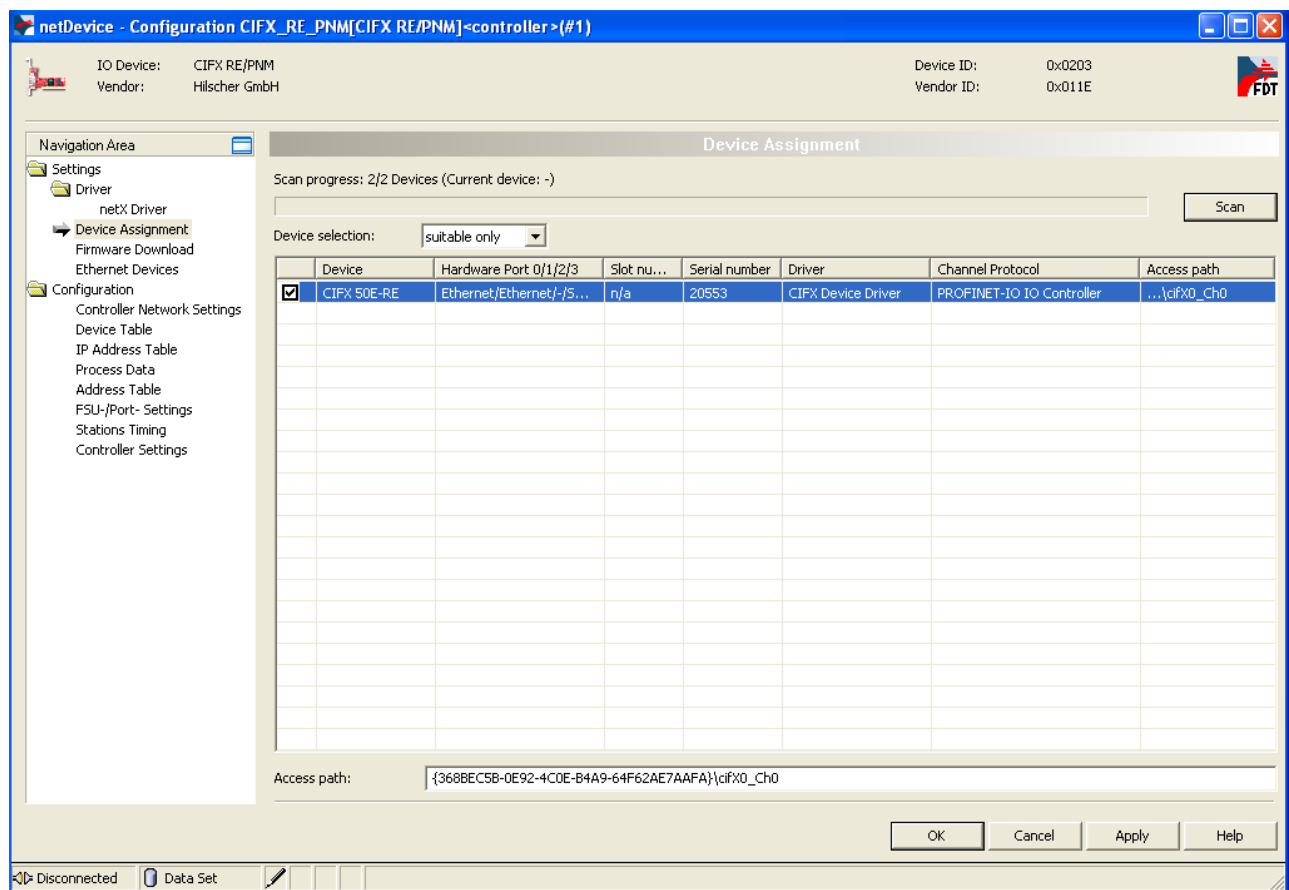

Figure 6: Select the correct Hardware
- Select the cifX card, by marking it in the device selection (see Figure 6: Select the correct Hardware).